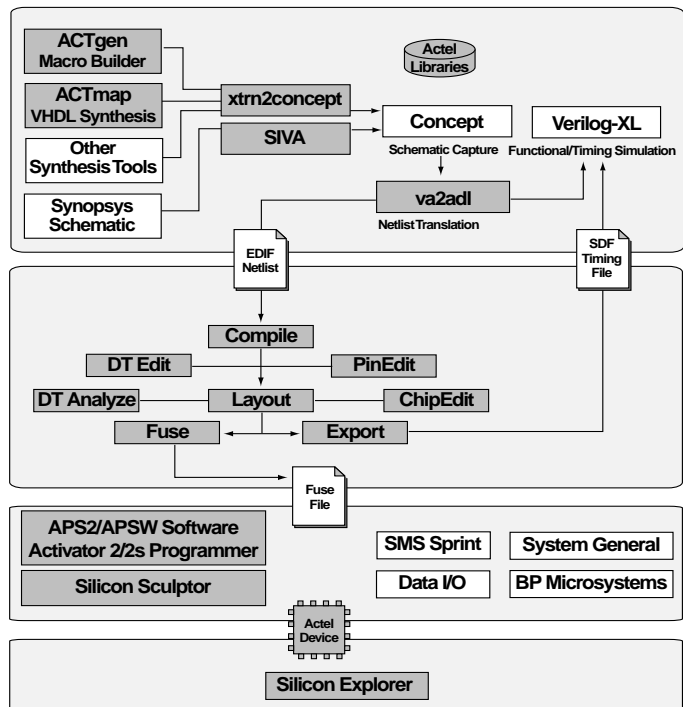

Figure 2-1. Concept/Verilog-XL Design Flow
Figure 2-1 shows the schematic-based design flow for an Actel FPGA using Designer software and Concept schematic capture software.1
1. Actel-specific utilities/tools are denoted by the grey boxes in Figure 2-1.